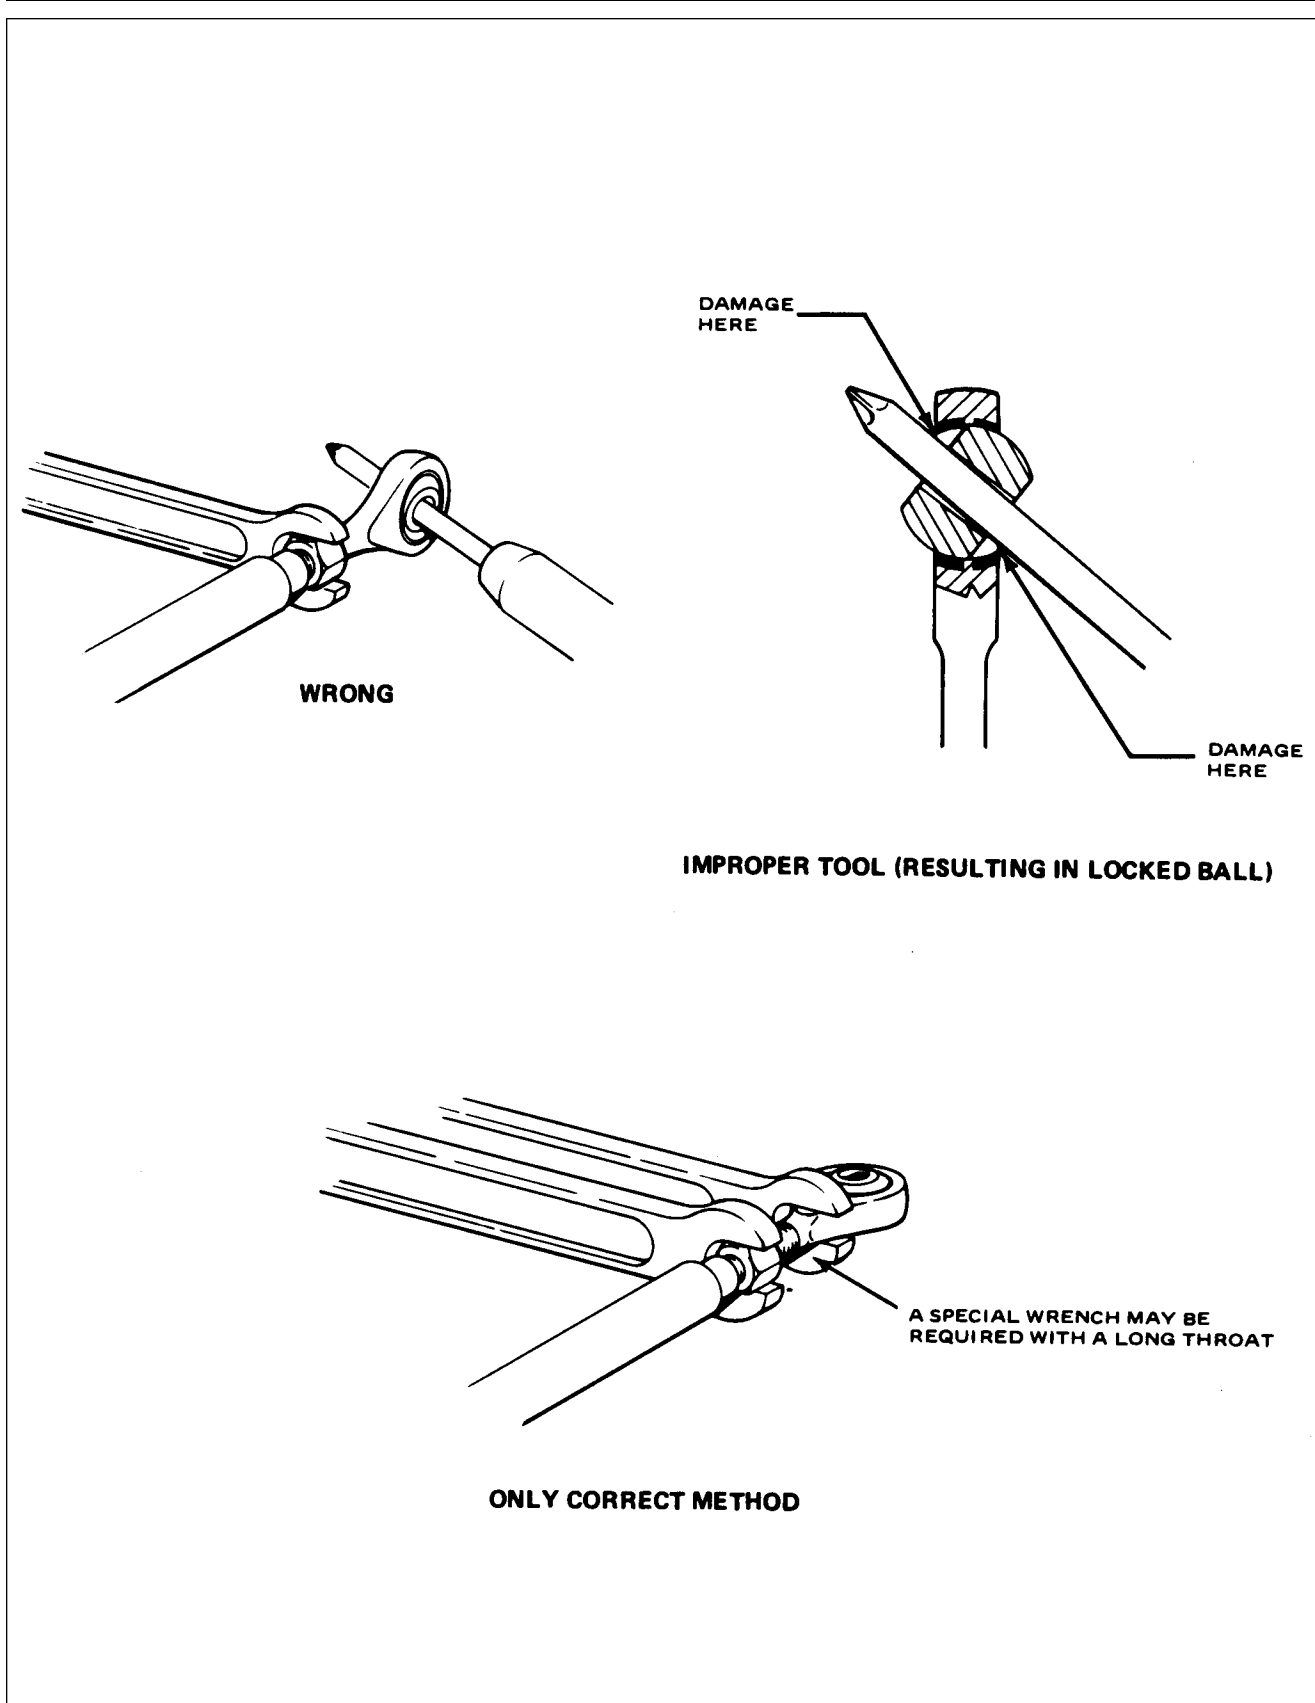

Figure 5-1a. Method of Installing Rod End Bearings
- j. After completion of adjustments, each jam nut must be tightened securely. (Refer to Figure 5-1a for proper installation method).